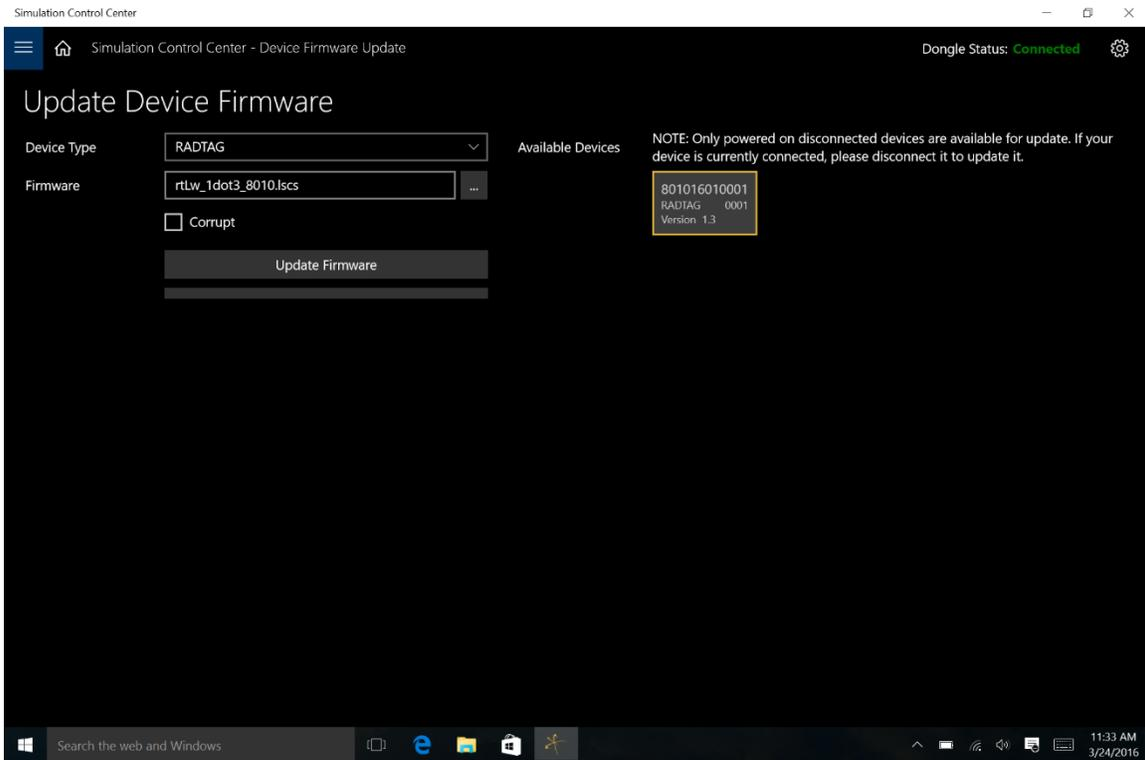

FIGURE 8 SELECT DEVICE FOR FIRMWARE UPDATE
4. Select the Rad Tag Tile by clicking on it (see Figure 8)